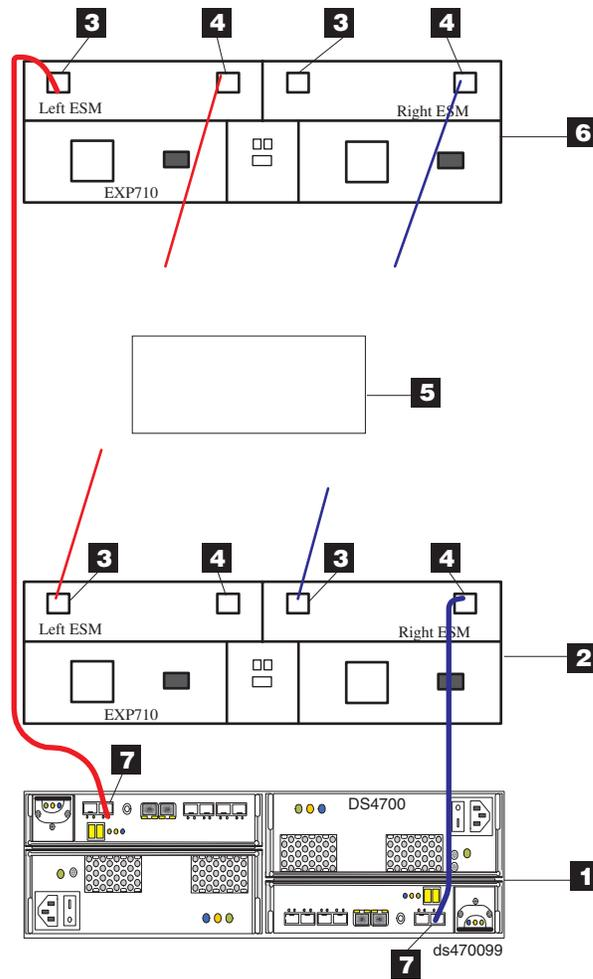

Figure 59. DS4700 Express drive ports connected to EXP710 ESM In and Out ports
- The DS4700 Express drive port must always be connected to the 14-drive storage expansion enclosure (EXP710) left ESM IN port of the last enclosure in the group of enclosures that are cabled in a redundant drive loop pair. In addition, the DS4700 Express drive port must always be connected to the 14-drive storage expansion enclosure right ESM OUT port of the first enclosure in the group of enclosures that are cabled in a redundant drive loop pair. Figure 59 on page 79 shows correct cabling to the 14-drive storage expansion enclosure (EXP710) ESM ports.